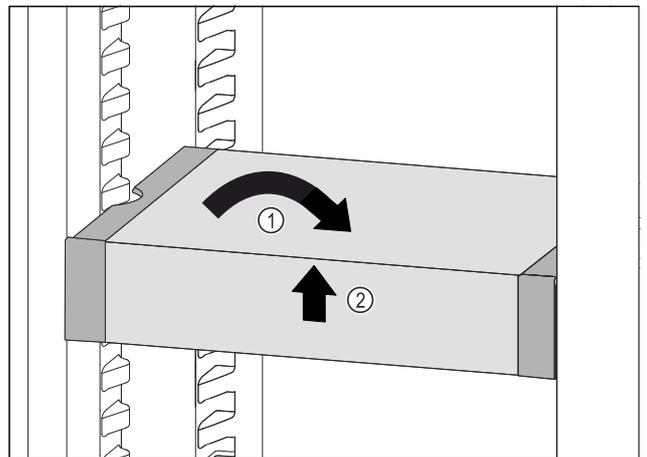

Fig. 100
- ▶ Set VarioSafe straight. Fig. 100 (1)
- ▶ Lift VarioSafe at the front. Fig. 100 (2)